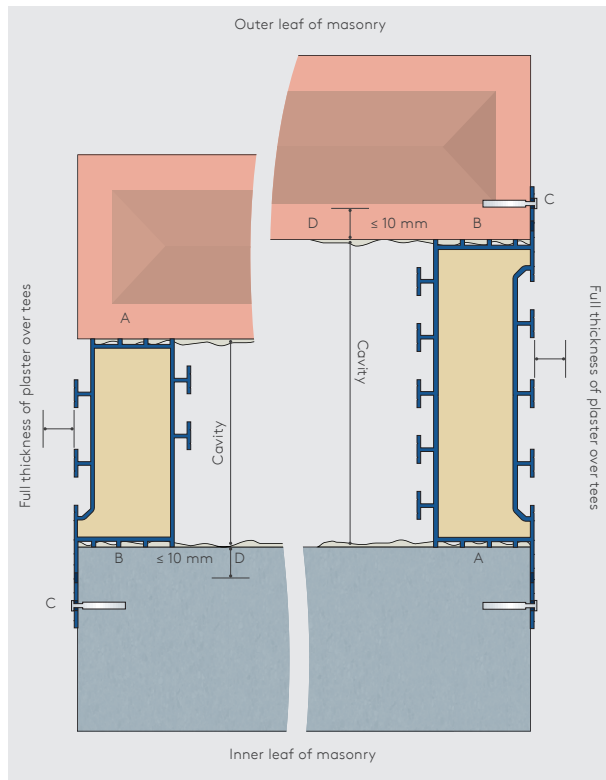

Figure 16: Basic installation principles
- Flange/s should always be positioned tight against the masonry and securely fixed to the masonry with a suitable fixing through the holes in the flange/s (Figure 16 C).
- In the circumstance where the section or frame, exclusive of the flange/s, does not fully fill the cavity, the appropriately sized section or frame should span the cavity such that the residual gap, which should be no greater than 10 mm, is situated behind the flange (Figure 16 D).